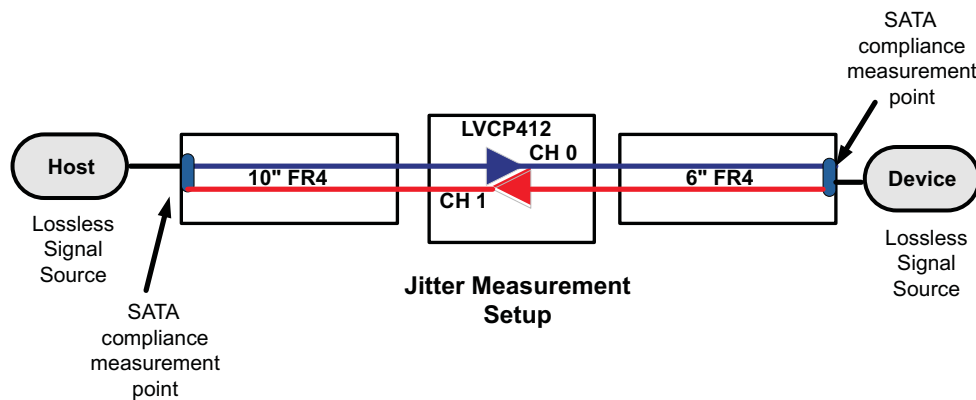

Figure 2. Jitter Measurement Test Condition
- (1) $T_J = (14.1 \times RJ_{SD} + DJ)$ where RJ_{SD} is one standard deviation value of RJ Gaussian distribution. T_J measurement is at the SATA connector and includes jitter generated at the package connection on the printed circuit board, and at the board interconnect as shown in Figure 2.